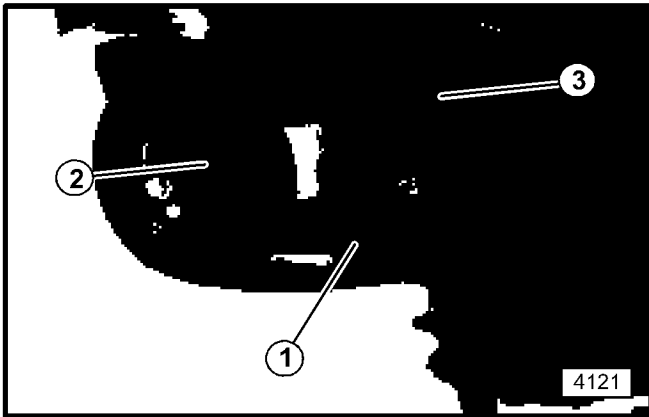

FIGURE 22
2. Remove the return links connecting the tine arms to the vertical links by unscrewing the hardware and separating the two halves (See FIGURE 22). Note the position of the washers for reinstallation.